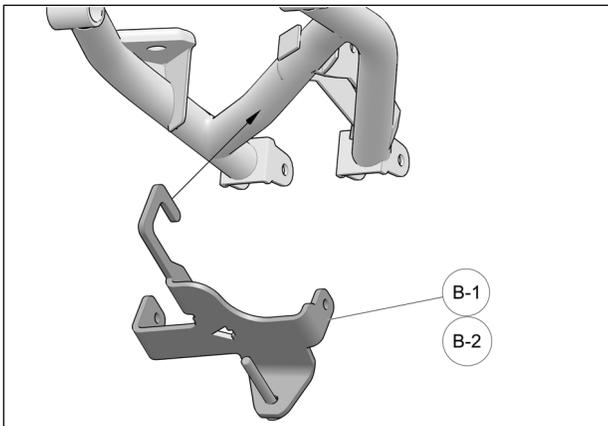

Fig. 6
6. Hook the back end of anchor bracket (B-1, B-2) on cross-member of lower suspension arm. See Fig. 6